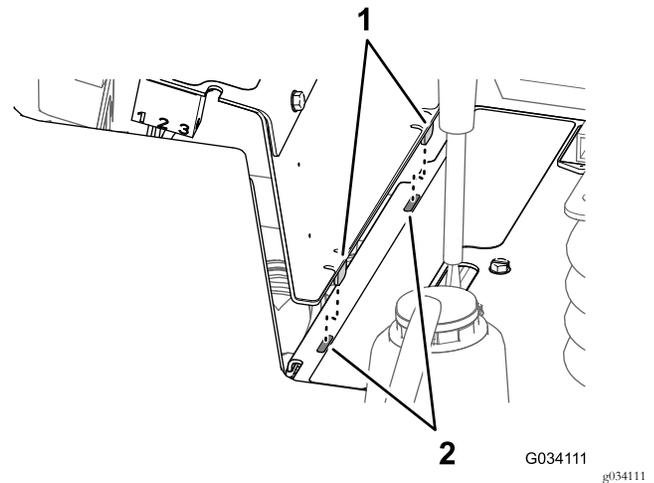

Figure 55
2. Align the 2 tabs at the bottom of the side panel with the 2 slots in the frame for the console (Figure 55).